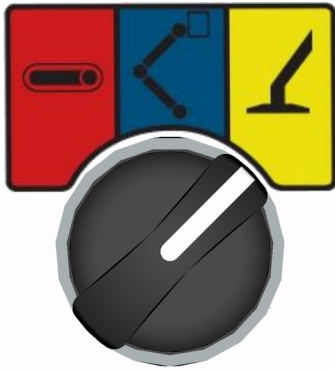

Fig. 129: Outrigger function
- 9.** → Set toggle switch (Fig. 129) on control panel to the outrigger function (yellow).